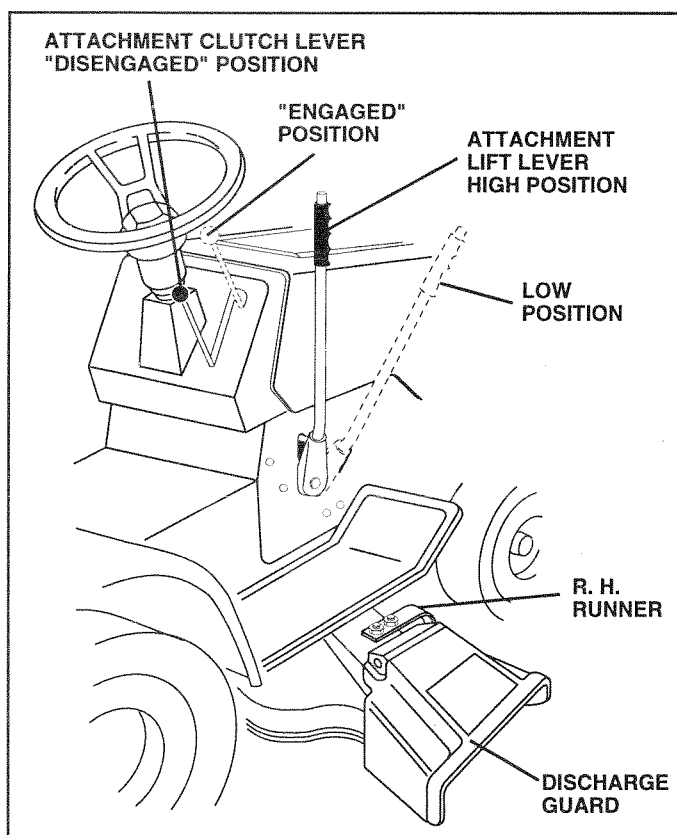

FIG. 8
## TO OPERATE MOWER (See Fig. 8)
- Use the runner on the right hand side of mower as a guide. The blade cuts approximately an inch outside the runner (See Fig. 8)